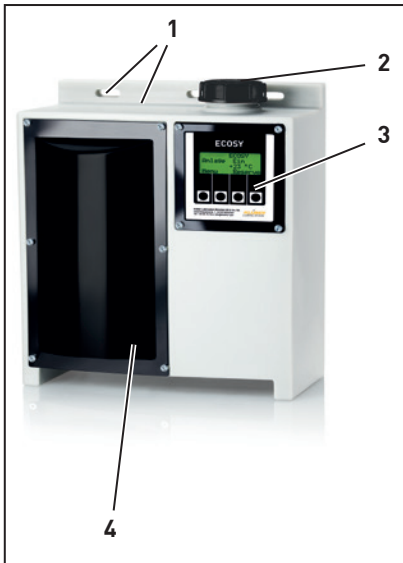

Fig. 3-1 Klübermatic ECOSY
Klübermatic ECOSY basically consists of (Fig. 3-1, 3-2):
- Remove cover of pump compartment (4, Fig. 3-1).
- Attach cover for pump area (4, Fig. 3-1). Finger tighten allen screw.